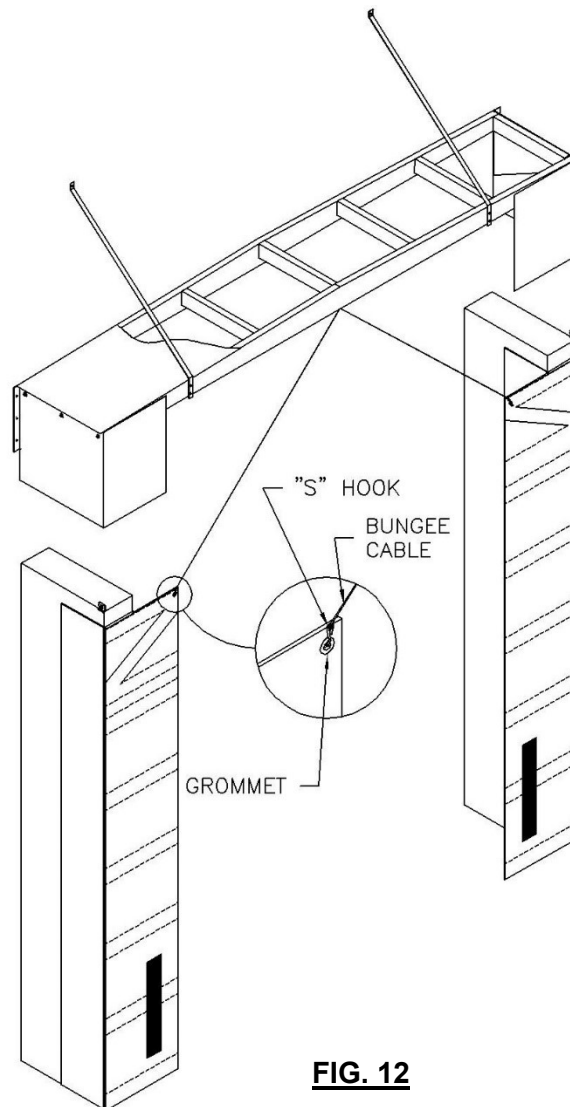

FIG. 12
- iv. Attach the bungee cables to the removable inward panel by hooking the "S" hook through the grommets at the top corners of the left and right removable inward panels (Fig. 12).